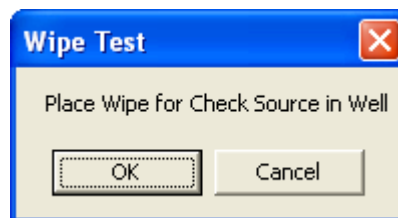

Figure 8-20
- To begin counting the wipe location, click the **Count** button or press *Alt+C*. A Figure 8-20 will appear (the location *Check Source* is shown in the example).